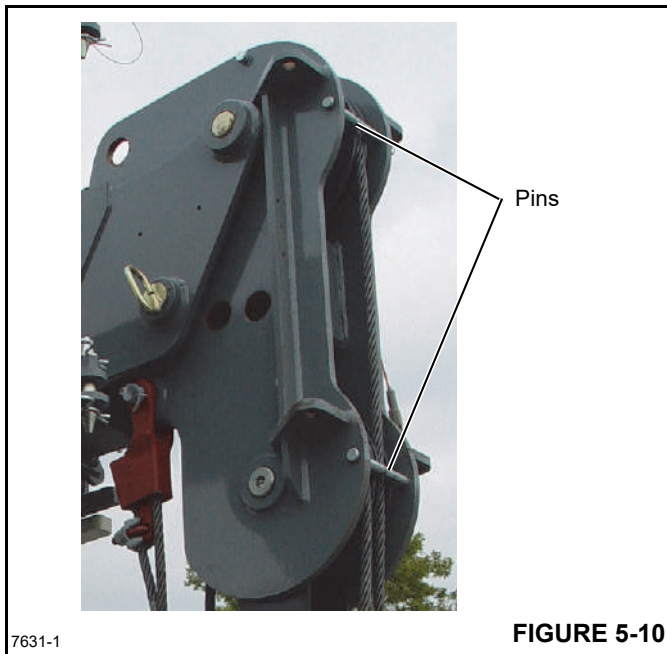

FIGURE 5-10
3. Remove the two pins from the boom nose (Figure 5-10).